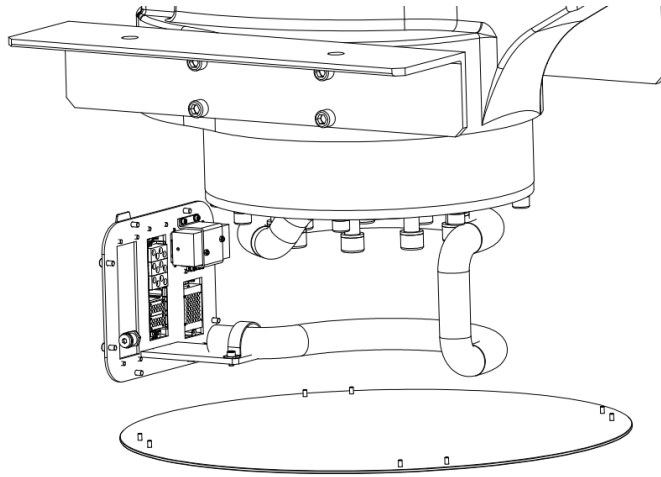

Figure 10-3 Diagram of cable routing inside the base
- Step1. Remove the electrical installation board, as shown in Figure 10-3, and pull out the cables inside the base.
- Step8. Insert the cable into the base, keeping it in the 'U' shape as shown in Figure 10-3.